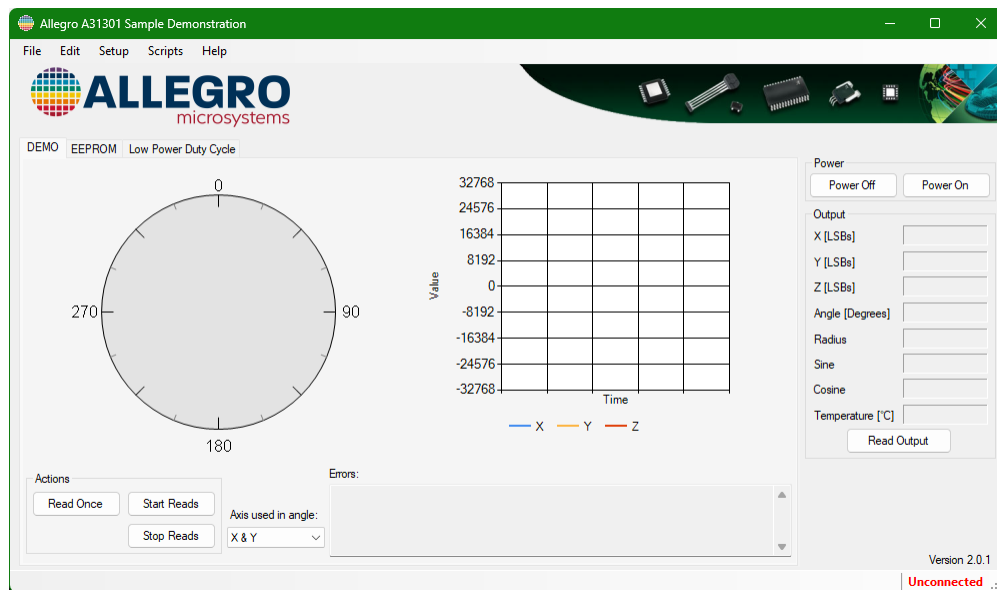

Figure 2: Main Window
1. Double click on the application. It is the file called Allegro A31301 Demonstration.exe in the Allegro A31301 Demonstration V2.0.x folder. The main window will appear (see Figure 2).